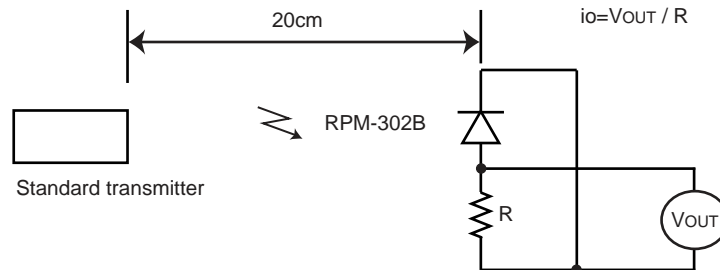

Fig.2 Measurement of standard transmitter proofreading
When standard transmitter output the signal at Fig.1 standard photodiode output become $i_o=5\mu\text{A}_{\text{p-p}}$ under the measurement condition Fig.2.
(1) All characteristics of the receiver in this specification are specified by supplying burst wave form (Fig.1) with ROHM standard transmitter (Fig.2).